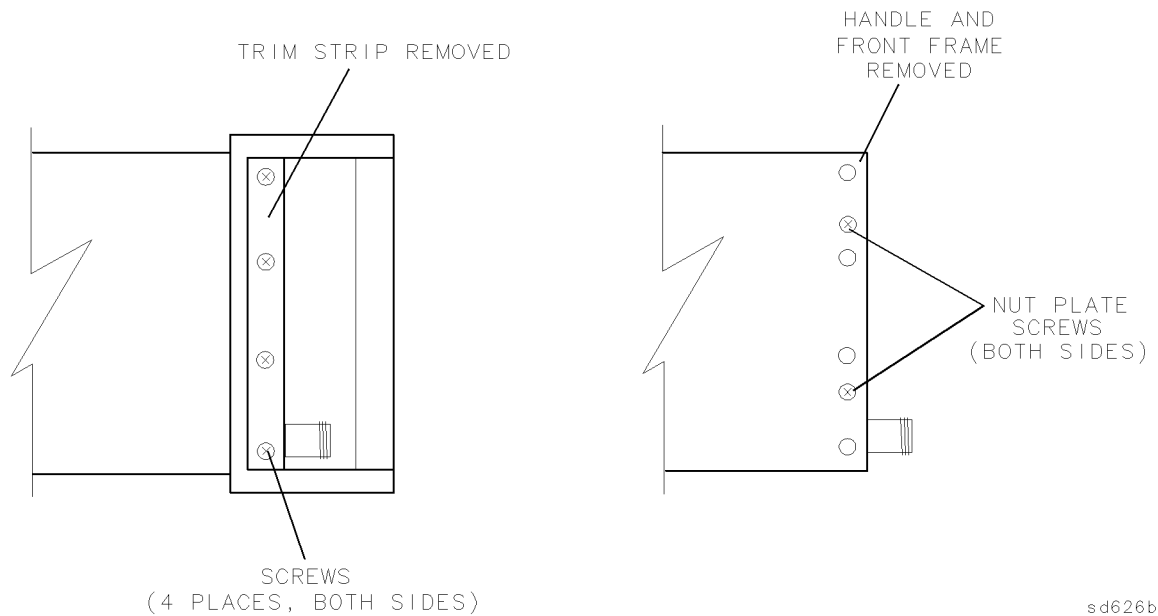

Figure 3-1. Removing the Handles and Front Panel Assembly
2. Remove the front handles (trim strip first). See Figure 3-1.